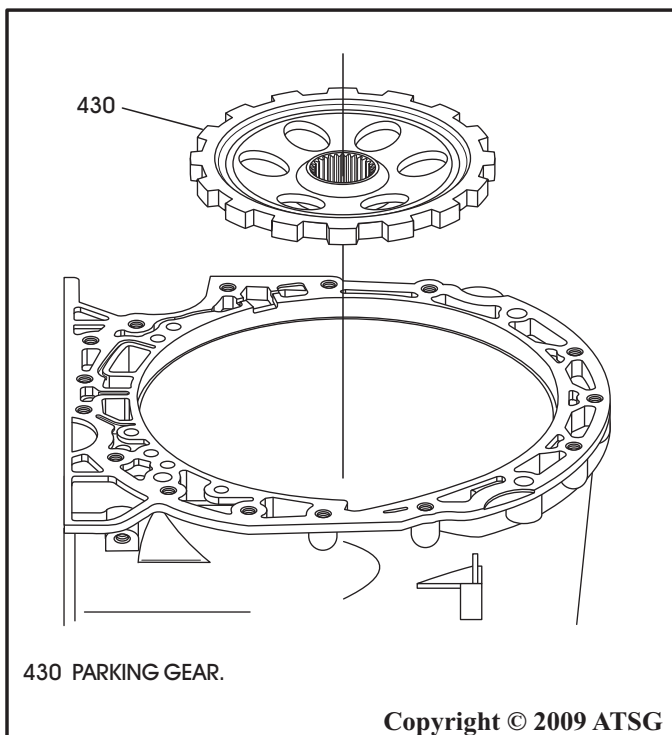

Figure 174
1. Install the parking gear into the bottom of the case, as shown in Figure 174.